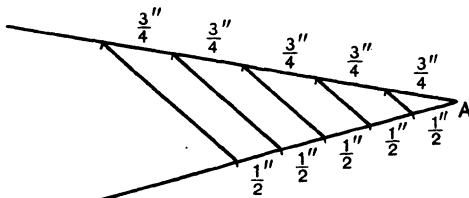

FIG. 1. PARALLEL LINES
1. The children draw two lines meeting at a point at any angle. Along one they mark off $\frac{1}{2}$ inches and along the other $\frac{3}{4}$ inches. They join the points in pairs, and discover that the lines obtained are parallel to one another, Fig. 1.